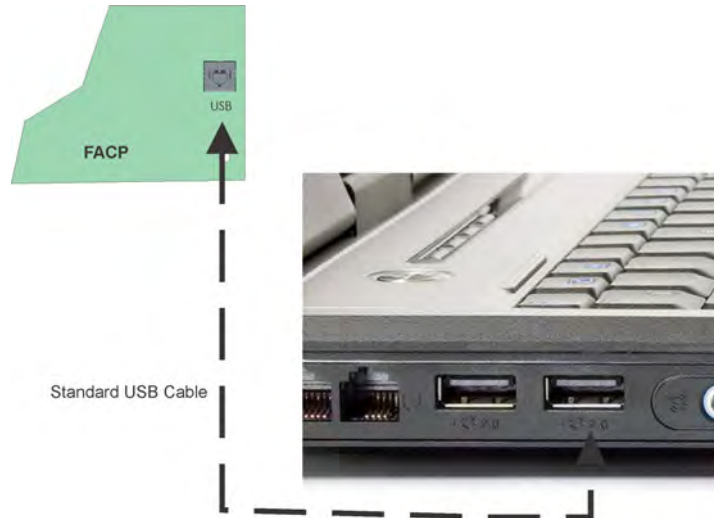

Figure 11.8 USB Cable Connections
2. Connect the PC to the FACP USB port using a standard USB cable. The ECS-NVCM will use the USB on the FACP (See Figure 11.8).